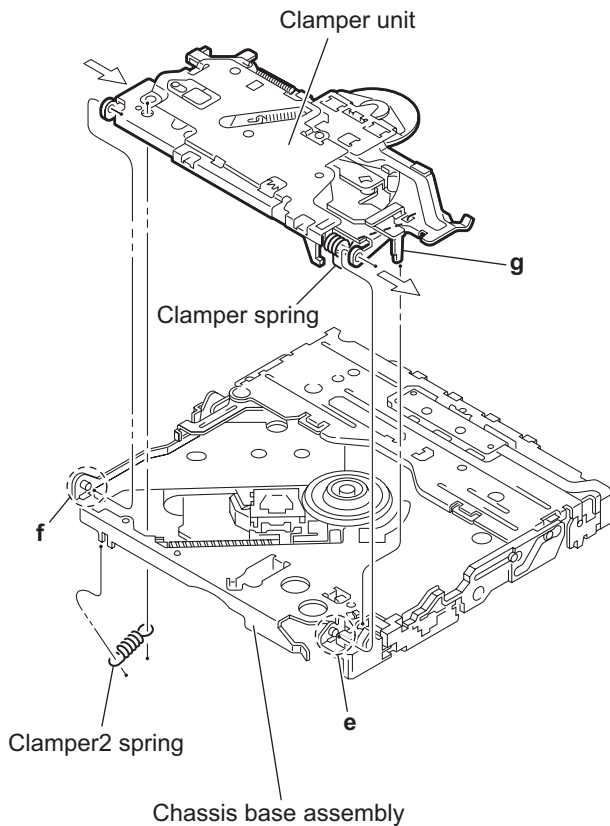

Fig.5
### 3.2.4 Removing the clamper unit (See Fig.5 to 7)
- (1) Remove the clamper2 spring on the bottom of the mechanism section. (See Figs.5.and 6.)
### 3.2.5 Reattaching the clamper unit (See Fig.5 to 9)
- (2) Move the clamper unit to set the side joints **e** and **f** to each boss of the chassis base assembly. Make sure that part **g** is inserted to the notch of the chassis base assembly. (See Figs.5 and 9.)
- (4) Attach the clamper2 spring to the chassis base assembly. (See Figs.5 and 6.)